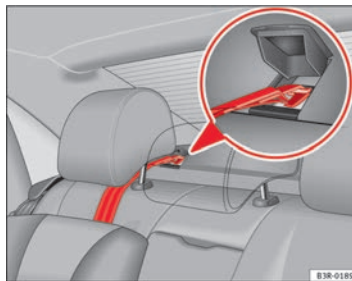

Fig. 35 Retainer strap: correct adjustment and fitting
- Lead the Top Tether fastening belt under the rear seat head restraint ⇒ Fig. 35 (lift the head restraint where necessary).
- Lift the anchorage cover on the rear shelf -see detail- ⇒ Fig. 35.